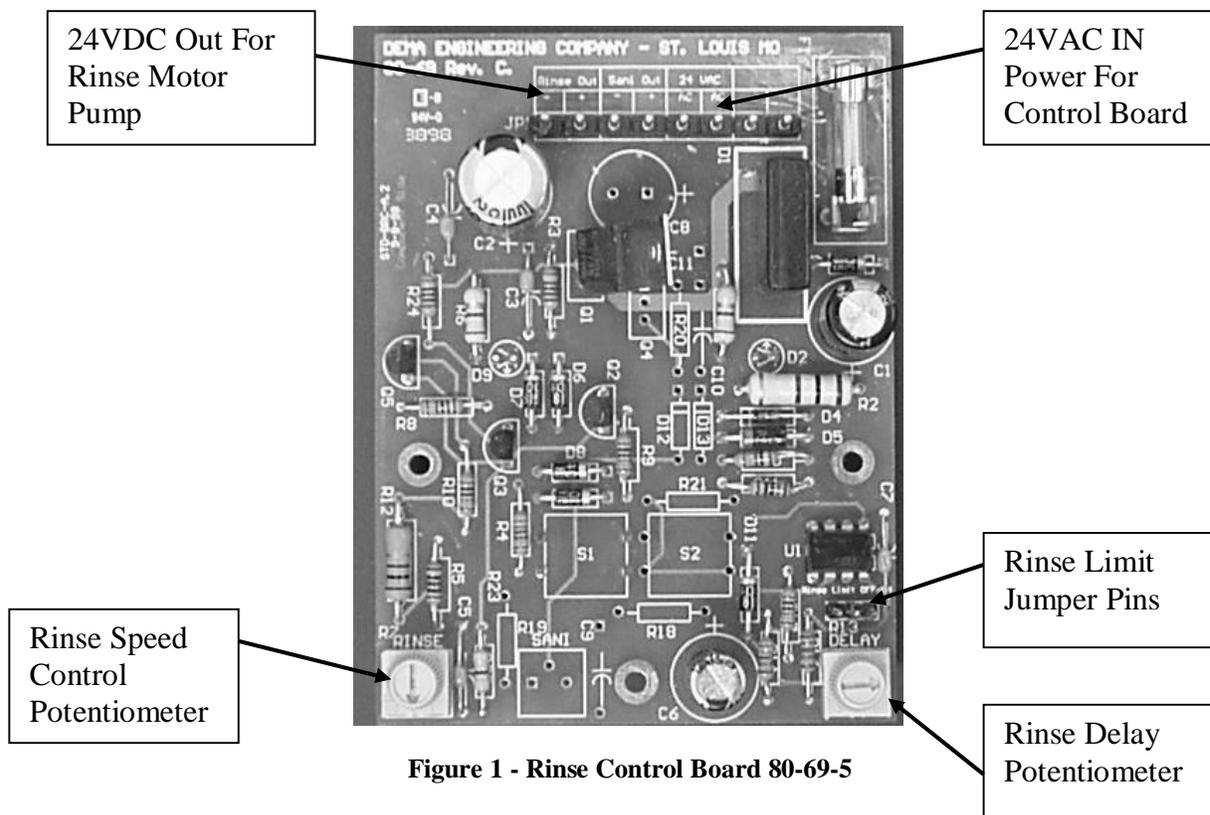

Figure 1 - Rinse Control Board 80-69-5
It is important to know what DEMA rinse control board is being used. Table 1 describes the two different DEMA rinse control boards; additionally Figures 1 and 2 in this instruction sheet also illustrate the differences.
To improve the installation and performance of the 80-69 rinse control it will be helpful to understand the functions of the features described in table 1. See figures 1 and 2 on next page to locate the various features on the control board.
**Rinse Limit:** This allows the control board to limit the amount of time that the rinse pump will operate to 18 seconds when a signal is received. It is set by use of a jumper and 3 pins located on the control board. The jumper simply slides on to 2 of the pins. As shown in Figures 1 and 2, when the jumper is on the middle and far-left pin it is in the “off” position. When the jumper is on the middle and far right pin, it is in the “on” position. A common application that this feature may be useful is when the dish machine fills the tank through the rinse. When the rinse limit is in the “on” position, it will allow the rinse pump to run only the first 18 seconds during the wash tank fill. This feature does not have an effect on the sanitizer pump.